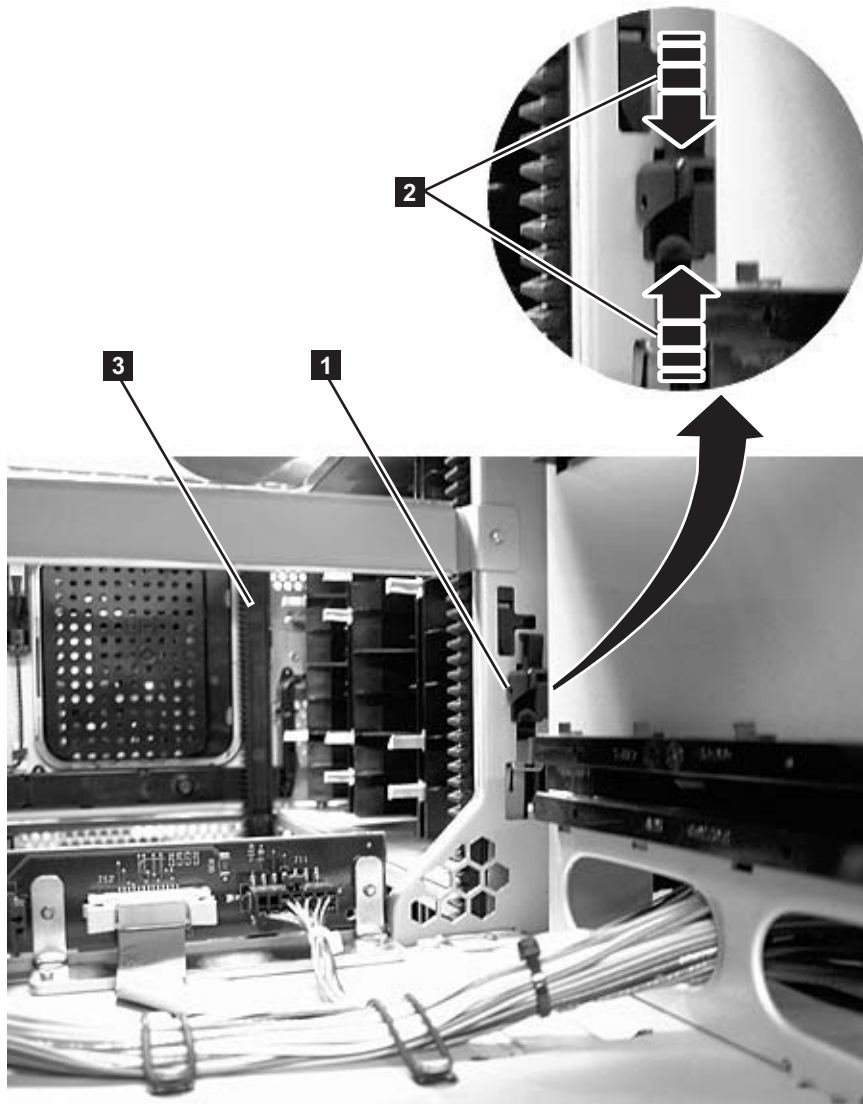

Figure 12-8. Gear racks and gear rack locking mechanism
12. Engage the rear (**1** in Figure 12-8) and front (**3** in Figure 12-8) gear racks in the control module. While pinching the gear rack locking mechanism (**2** in Figure 12-8), push the gear rack down until it locks in place and no gaps appear between the front and rear gear racks in the control module and expansion module.